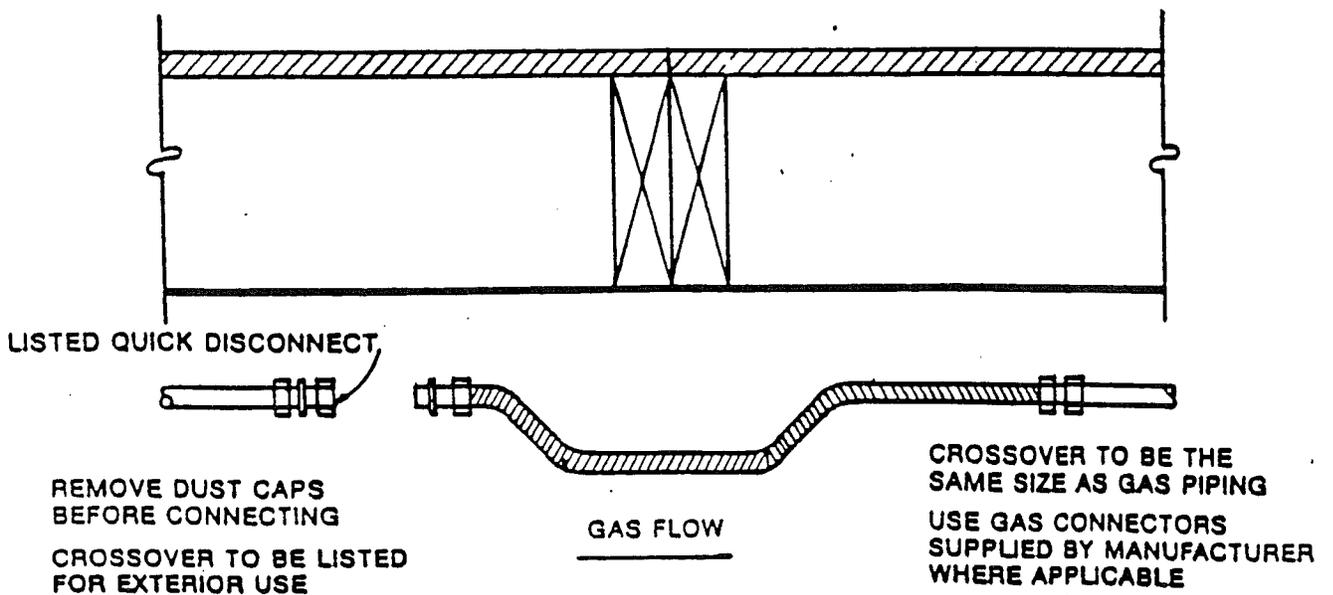

Figure 8.10 — GAS LINE CROSSOVER CONNECTION
- 8.4.4 Crossovers.** Install the gas line crossover in multisection homes as shown in Fig. 8.10 before performing any system tests or connecting the system to the gas supply. All crossovers and fittings are factory installed on the supply side and are listed for manufactured housing exterior use. Do not use tools to connect or remove the flexible connector quick disconnect.